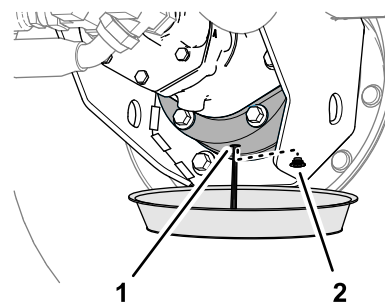

Figure 100
6. Place a drain pan under the brake housing, remove the drain plug, and allow the lubricant to drain completely (Figure 100).